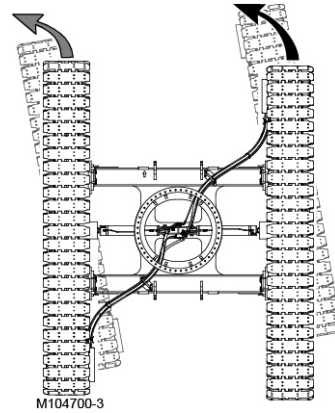

Figure 3-17. Travel Left (gradual turn)
- To make a GRADUAL LEFT TURN (Figure 3-17), move both crawler handles to front from the neutral position. Move the right crawler control handle farther to the front than the left crawler handle. The right crawler will turn faster than left crawler.